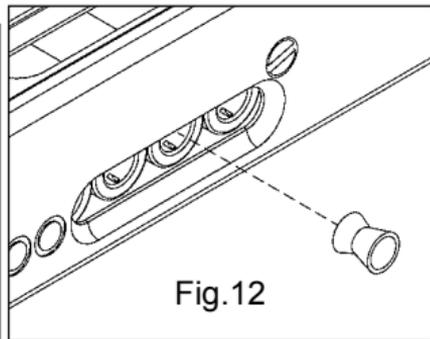

Fig.12
2.3.1 Move the empty container into position in front of the oval opening, located under engraved "arrow", following the direction of the "arrow", with the help of a pusher (Fig. 12);
- Move the containers in pairs following the “arrow” and align them with an oval opening (Fig. 12);